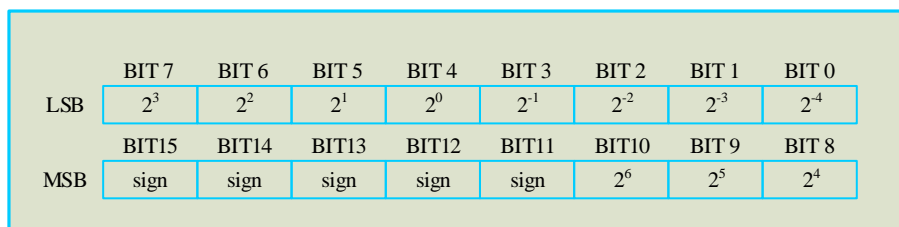

Figure 2. Temperature Register Format
The GX18B20H output temperature data is calibrated in degrees Celsius; for Fahrenheit applications, a lookup table or conversion routine must be used. The temperature data is stored as a 16-bit sign-extended two’s complement number in the temperature register (see Figure 2). The sign bits (S) indicate if the temperature is positive or negative: for positive numbers S